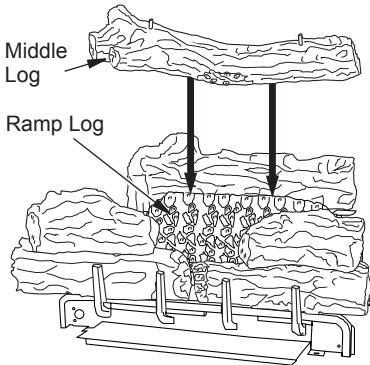

Figure 44 - Installing Middle Log
- Place the middle log onto the ramp log as shown in Figure 44. The middle log has two tabs on the bottom to position from left to right on the ramp log. The front of the middle log should be touching the top left front log and top right front logs.